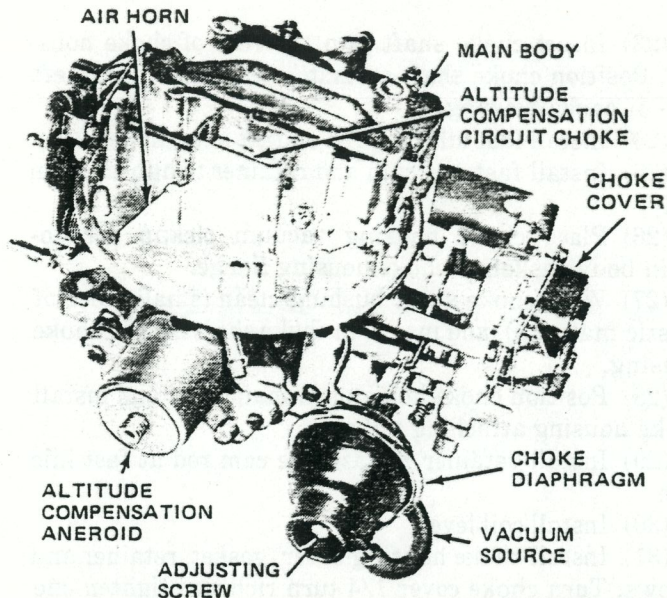

Fig. 1J-133 Initial Choke Valve Clearance Adjustment
- (1) Loosen choke cover retaining screws.
- (2) Open throttle and rotate choke cover until choke valve is held closed. Tighten one retaining screw.
- (3) Close throttle with fast idle speed adjustment screw on top step of cam.
- (4) Apply vacuum to hold choke diaphragm against setscrew. Do not press on links.
(5) Measure clearance between lower edge of choke valve and air horn (fig. 1J-133).